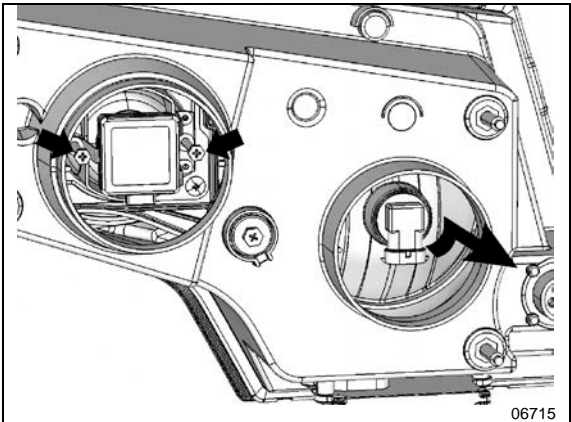

FIGURE 75: HEADLAMPS ASSEMBLY REAR VIEW
5. HALOGEN: turn the bulb base counterclockwise. XENON: Unscrew the Phillips head screws indicated by arrows, pull the retainer and bulb out (FIGURE 75).